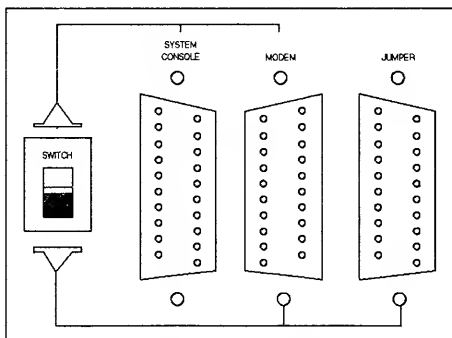

Figure 5-2. Remote Maintenance/Console Facility Switch
- d. Open the door to the Terminal/Data Comm. Junction Panel and set the Remote Maintenance/Console facility switch, shown in Figure 5-2, to the SYSTEM CONSOLE/MODEM position.